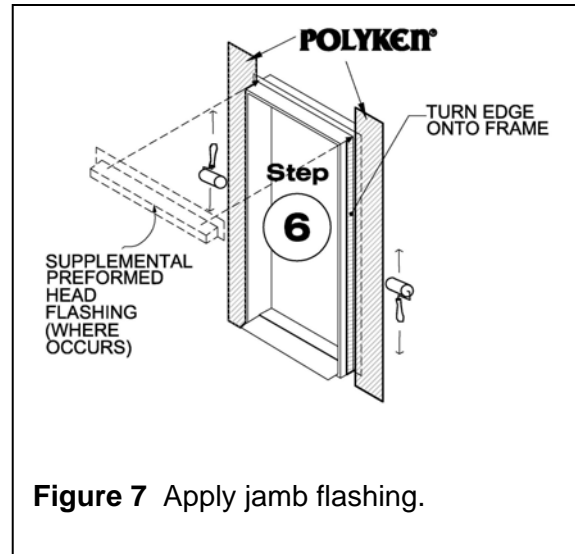

Figure 7 Apply jamb flashing.
Step 6. Precut Polyken® or Nashua® jamb flashing tape to extend a minimum of 6" above and below the rough opening. Peel off release liner and adhere membrane over the jamb fins and over top of Polyken® or Nashua® sill flashing tape (see Figure 7). Turn onto frame and refer to General Application Guide, Condition 3.